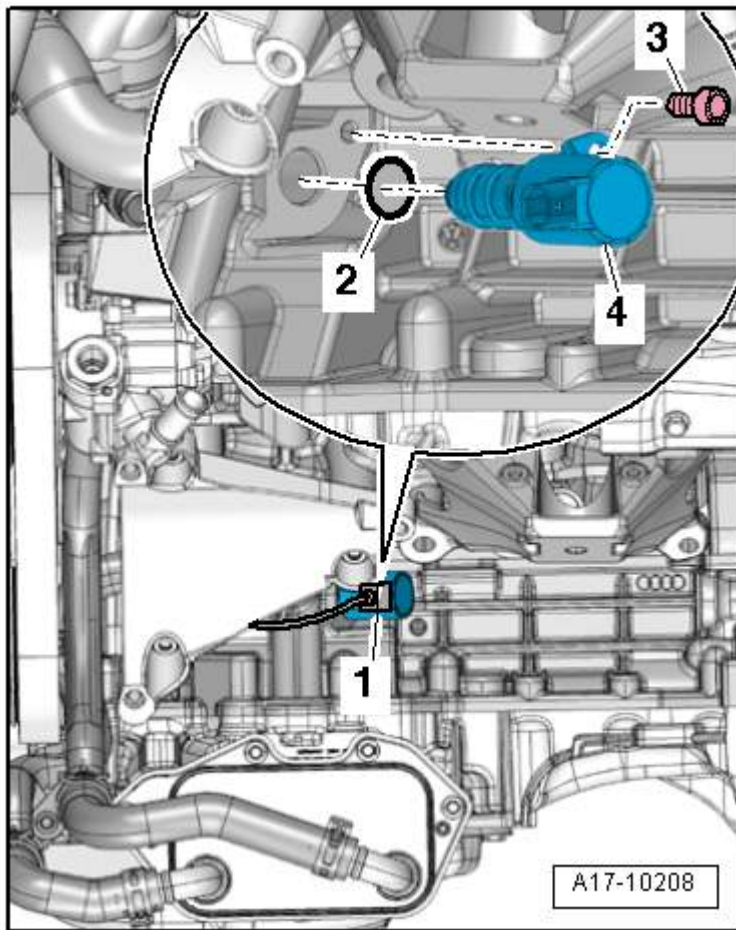
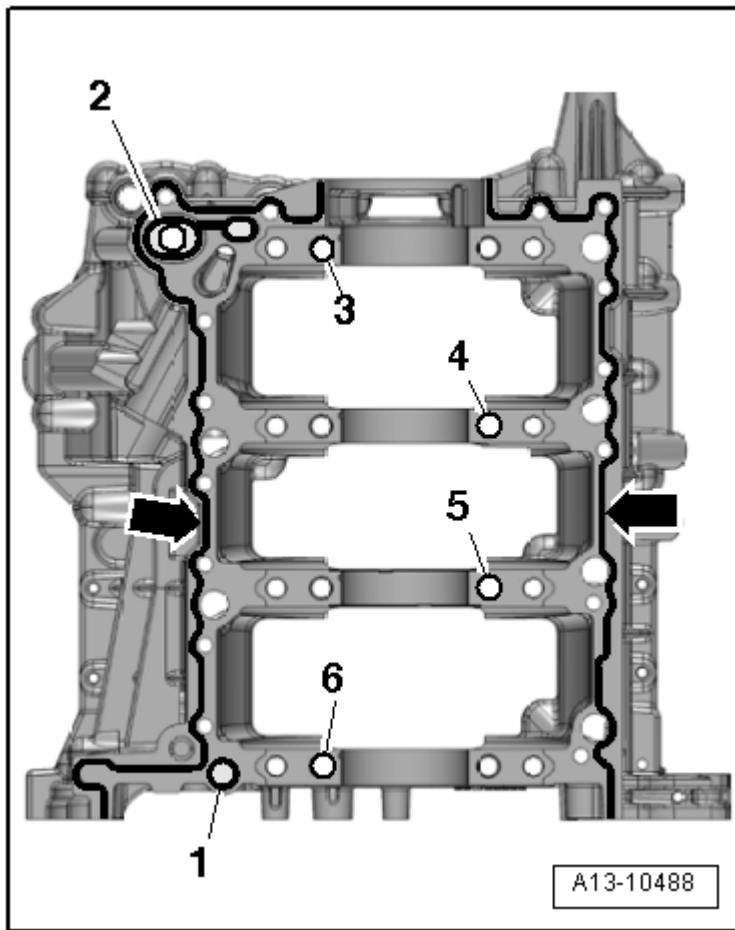

Fig. 3: Identifying Oil Pressure Regulation Valve -N428-
Fig. 4: Identifying Sealant Application For Guide Frame, Position Of Alignment Bushings
- Insert into guide frame, refer to **Fig. 4**
- With oil pressure regulation valve -N428-, refer to **Fig. 3**
- To remove, remove timing chain guide rail item 1: **TIMING MECHANISM DRIVE CHAIN OVERVIEW**
- Sealant application, refer to **Fig. 4**